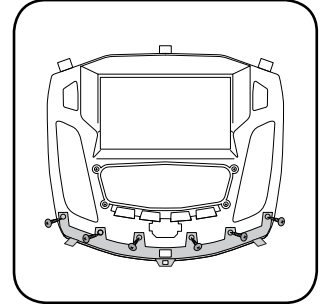

Fig. 2.2
2. Remove the bezel that is attached to the bottom of the FOC1. Using the screws provided, attach the bottom bezel trim that matches the factory bezel. (Fig. 2.2)